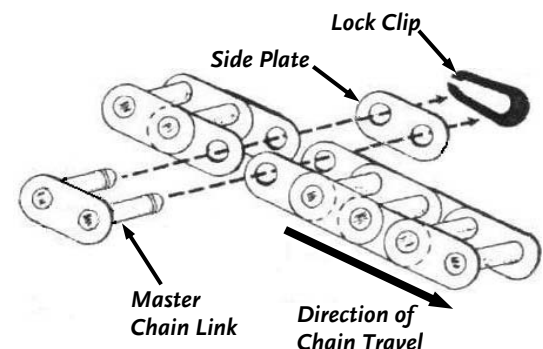

Figure 13
2. Locate and remove the Master Connecting Link in the chain by first removing the Lock Clip with a Blade Screwdriver and Pliers (**Figure 13**). You will need to lift one side and rotate the Clip to get it off the Master Link. Next, remove the Side Plate. Then remove the Master Chain Link and remove the Chain.
5. Pull the Chain Tensioner up and away from the Chain to release tension on the Chain and reinstall the Master Chain Link (**Figure 13**) in the new Chain.